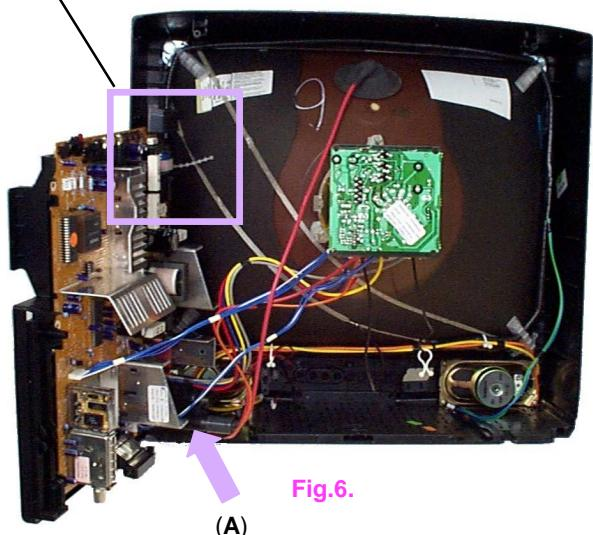

Fig.6.
7. Locate the base of the chassis frame into the hole (marked A), shown in **Fig.6.**